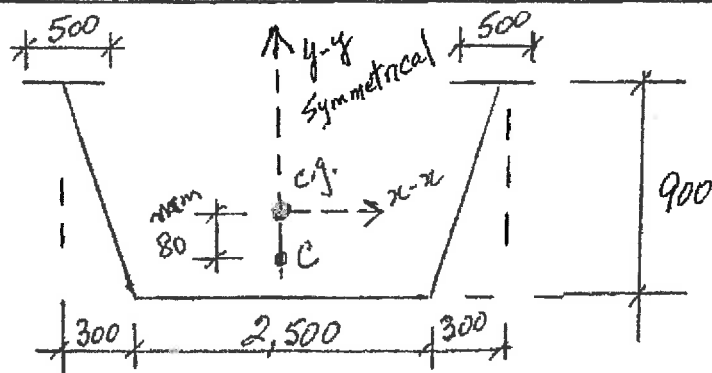

FIGURE A2
- A2. A pedestrian bridge cross-section built-up from 20 mm G40.21-350W steel plates is shown in Fig. A2. Determine the moments of resistance of the cross-section about the centroidal axes x-x and y-y.
- A3. The ends of a 18-m long pedestrian bridge, whose steel-section is shown in Fig. A2 are subjected to a horizontal compressive force, P_f . The force is applied at C, a distance of 80 mm below the c.g. and along the y-y axis. The ends of the bridge can be assumed to be hinged. Calculate the maximum factored load, P_f that the bridge can sustain horizontally.